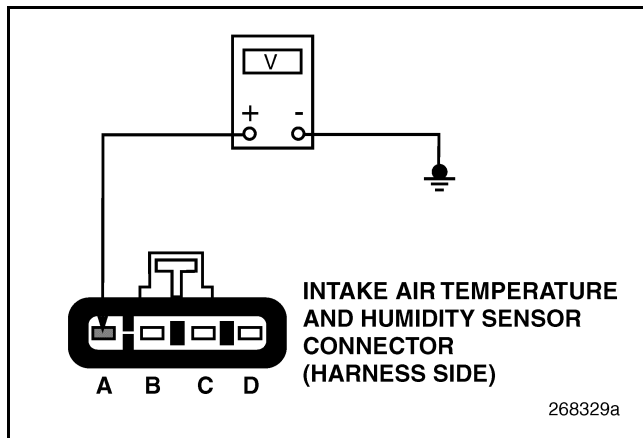

Figure 315
5. Measure the voltage between pin A of the IATH Sensor harness connector and a good ground (see Figure 315).